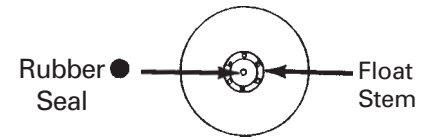

Figure 8
6. Insure rubber seal is in place in the center of the float stem (See Figure 8). If the seal comes out, press it back in place in the recess of the stem.
7. Replace the float cap (again, be certain the rubber seal, Figure 8, is in place).